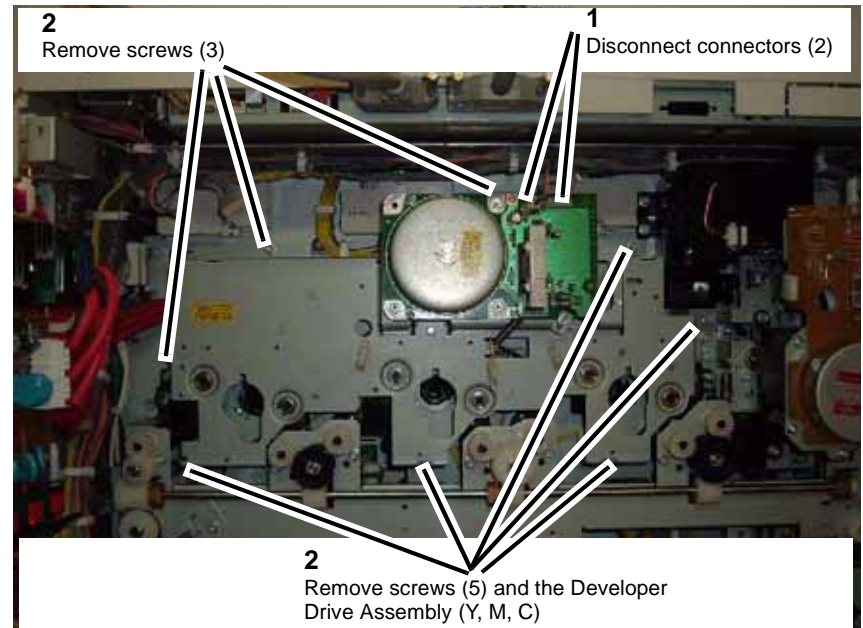

Figure 9 Removing the Developer Drive Assembly (Y, M, C)
10. Remove the Developer Drive Assembly (Y, M, C) (Figure 9).